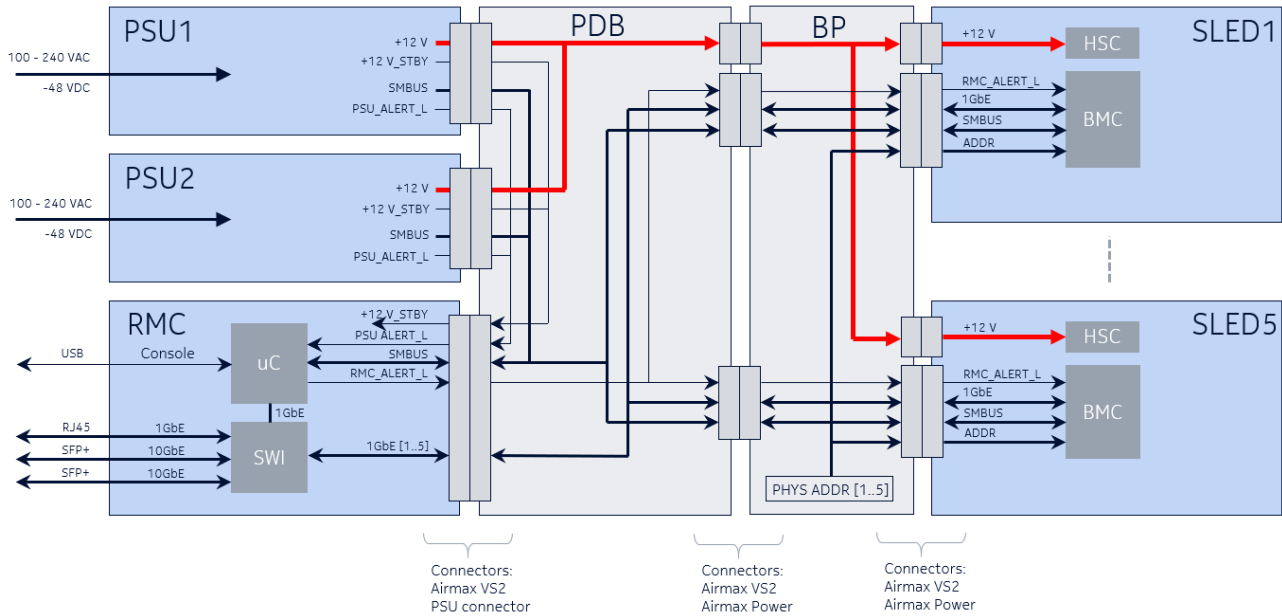

Figure 4 Block diagram of Open edge 3U chassis
The block diagram of Open edge 3U chassis is shown in Figure 4. Power supplies (PSUs) connect to the system through a power distribution board (PDB). Sleds are connected through a backplane (BP). A rack management controller (RMC) has the task of managing the PSUs and providing management Ethernet connectivity to the sleds.